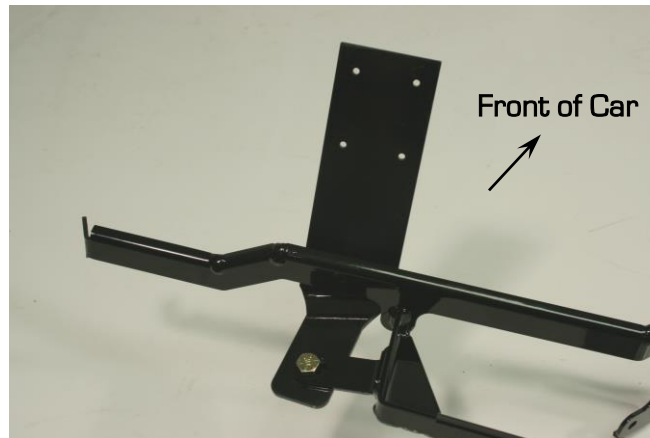

Figure 4 - Plenum Bracket Attached to Gen IV Magnum Mounting Bracket
NOTE: If you have a factory A/C 1969 Camaro, you will also need a plenum bracket which is available as DSE part number 011004 to complete the installation shown in Figure 4.
- b. On a factory a/c 1969 Camaro, Detroit Speed has available a Plenum Bracket (P/N: 011004) that is sold separately that attaches to the Gen IV Magnum Mounting Bracket allowing installation in the car. The Plenum Bracket attaches to the mounting bracket as shown in Figure 4 below. With the plenum bracket attached, locate it against the upper plenum sheet metal and attach it with either pop rivets or sheet metal screws.